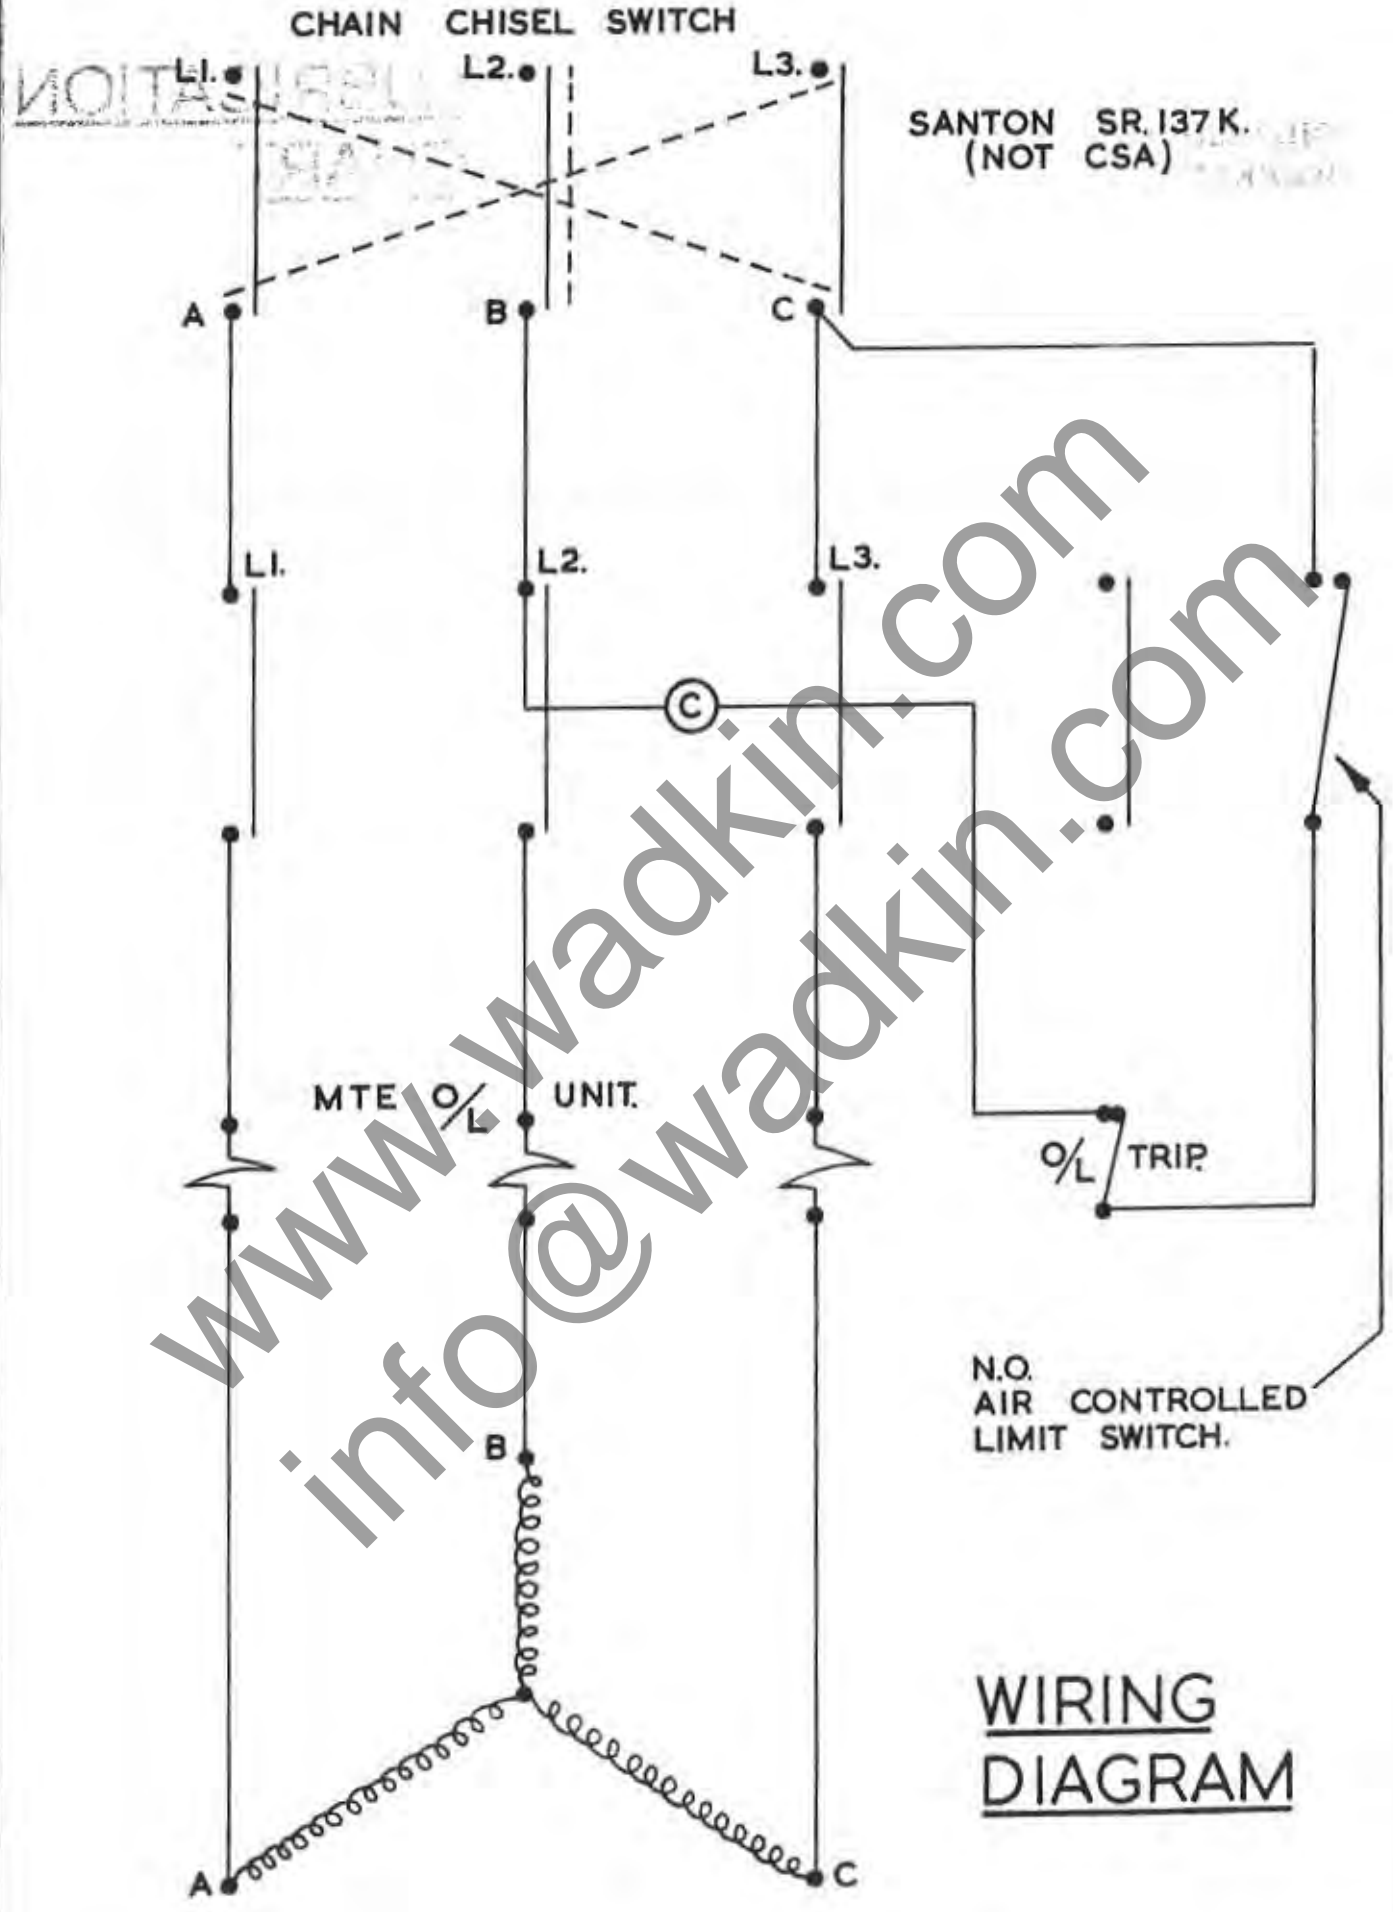

FIG 2
4. Connect the line leads to the appropriate terminals. See Fig. 2 for 3phase supply.